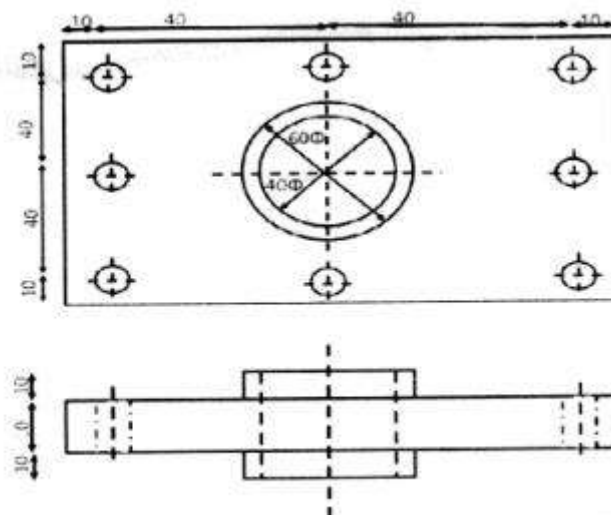

Figure 2
3. Calculate the machining time to drill eight 8 mm dia holes and one 40 mm dia central hole in the flange shown below (Figure 2). With cutting speed 10 m/min, feed for 8 mm drill 0.1 mm/rev, 40 mm drill is 0.4 mm/rev, 20 mm dia drill 0.2 mm/rev.